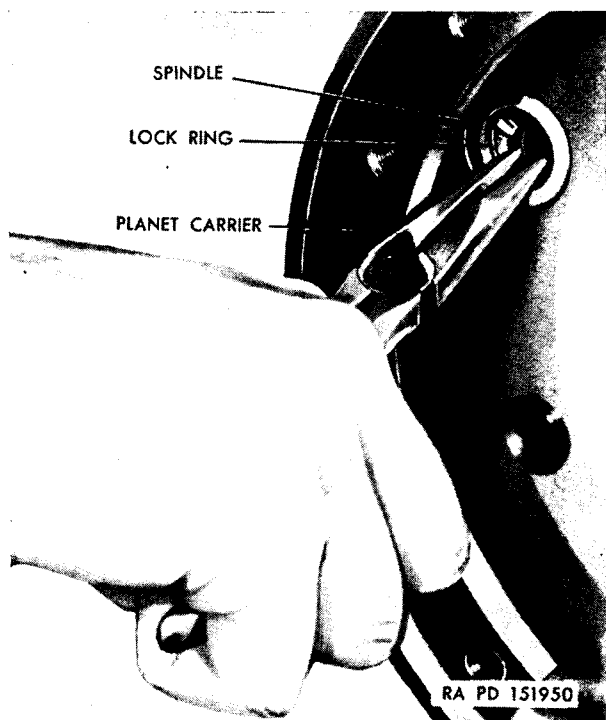
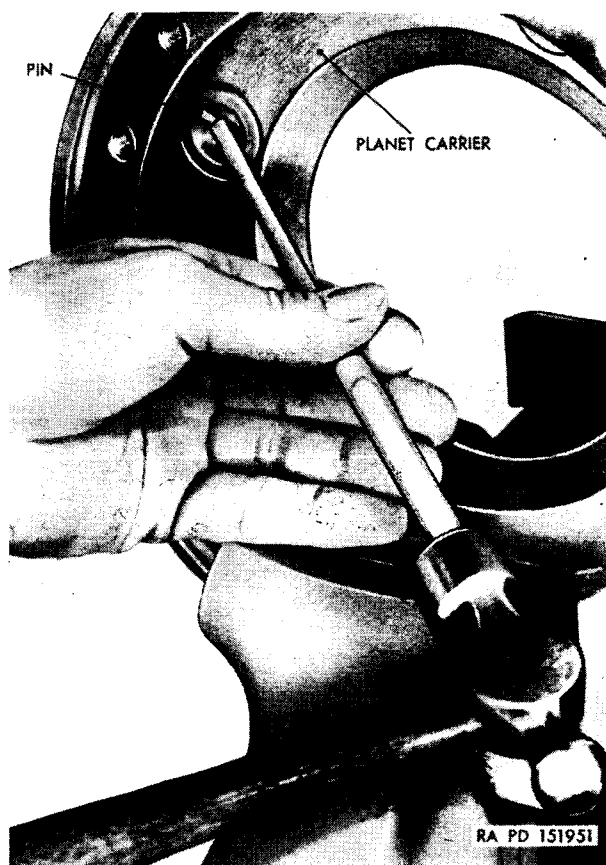

Figure 211. Removing or installing spindle snap ring.
Figure 212. Removing spindle lock pin.
- (3) Place the planet carrier in a vise equipped with soft jaws. Using long nosed pliers, remove the snap ring from each of the spindles (fig. 211). Using a hammer and a drift, drive out the pin which secures each spindle to the planet carrier (fig. 212).
- (4) Place the planet carrier on the assembly table and block it up with wood blocks so that the spindles may be driven out. Using a soft drift and a hammer, drive the spindles out of the planet carrier,
- (6) If there is cause to believe that there is dirt inside the spindle, or if a welsh plug is defective, pry the welsh plug out of the spindle. Install a new plug in the spindle. Using an arbor press and a $\frac{1}{2}$ -inch diameter rod, press on the center of the plug to seat it in the spindle. Press the center of the plug down until it is almost even with the edges of the plug.
- (7) To assemble the reverse-range planet carrier assembly, press the four spindles into their respective bores in the planet carrier, plugged end first. Install a pin through the planet carrier into the pin hole of each spindle. Be sure that the snap ring groove in the pin is aligned with the snap ring groove in the spindle. Install a snap ring in each spindle (fig. 211). Install a thrust washer and spacer on each spindle. Install the four pinion gears on their spindles and install 22 roller bearings in each gear. Install another thrust washer and spacer on each spindle.